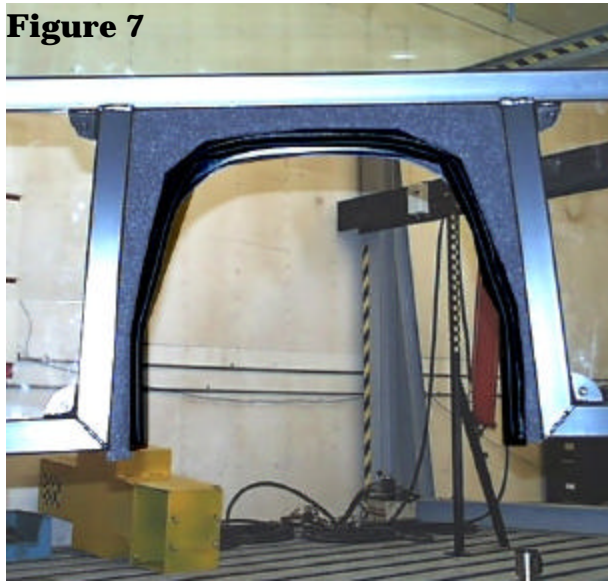

Figure 7
9. Proceed to the left lower portion of the steel hood shield. Take the 180° O-rubber and slide it onto the steel panel and work your way around the panel until you reach the same spot on the right side. See Figure 7.